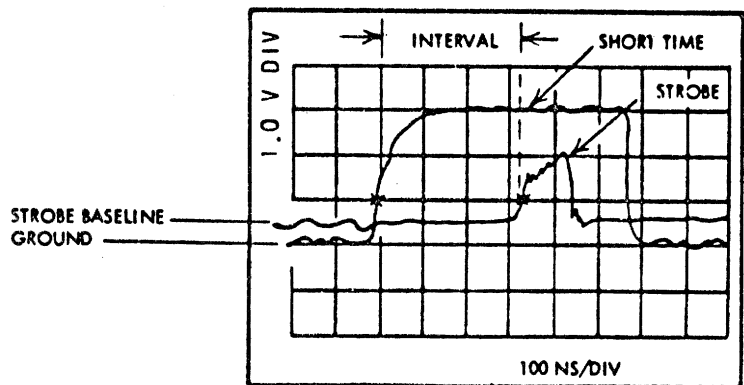

FIGURE 4
2B. ADJUST POTENTIOMETER ON CARD N2 SO THAT INTERVAL BETWEEN LEADING EDGES OF SHORT TIME (MEASURED AT 1 VOLT LEVEL WITH RESPECT TO GROUND) AND "+SENSE STROBE 4K" (MEASURED AT 0.5 VOLT LEVEL WITH RESPECT TO BASELINE FIGURE 4) IS THE SAME AS THAT ON ADJUSTMENT LABEL.
B. MEASURE INTERVAL BETWEEN LEADING EDGES OF SHORT TIME N2G03 (AT 1 VOLT LEVEL WITH RESPECT TO GROUND) AND STROBE D2B02 (AT 0.5 V LEVEL WITH RESPECT TO BASELINE) (FIGURE 4)